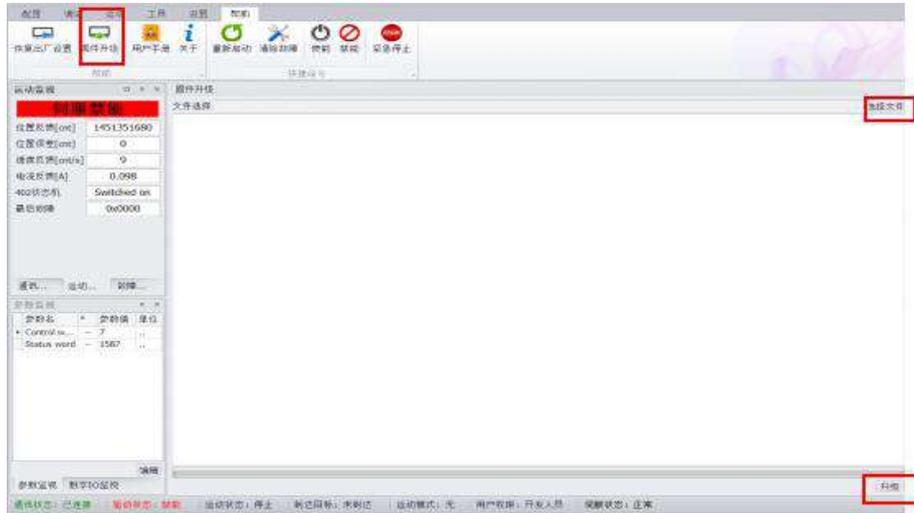

Figure 6-16 Firmware upgrade
1. Select "**Help**" in the main menu, and click "**Firmware Upgrade**" to open the firmware upgrade interface, as shown in Figure 6-16.